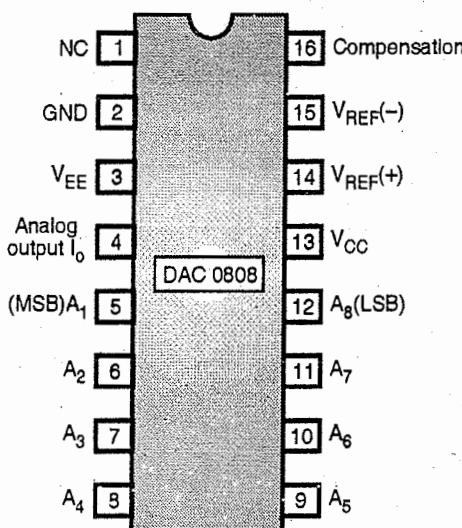

Fig. 3.1.1(a) : Pin configuration of DAC 0808
- The pin configuration and functional block diagram of DAC 0808 are as shown in Figs. 3.1.1(a) and (b) respectively.